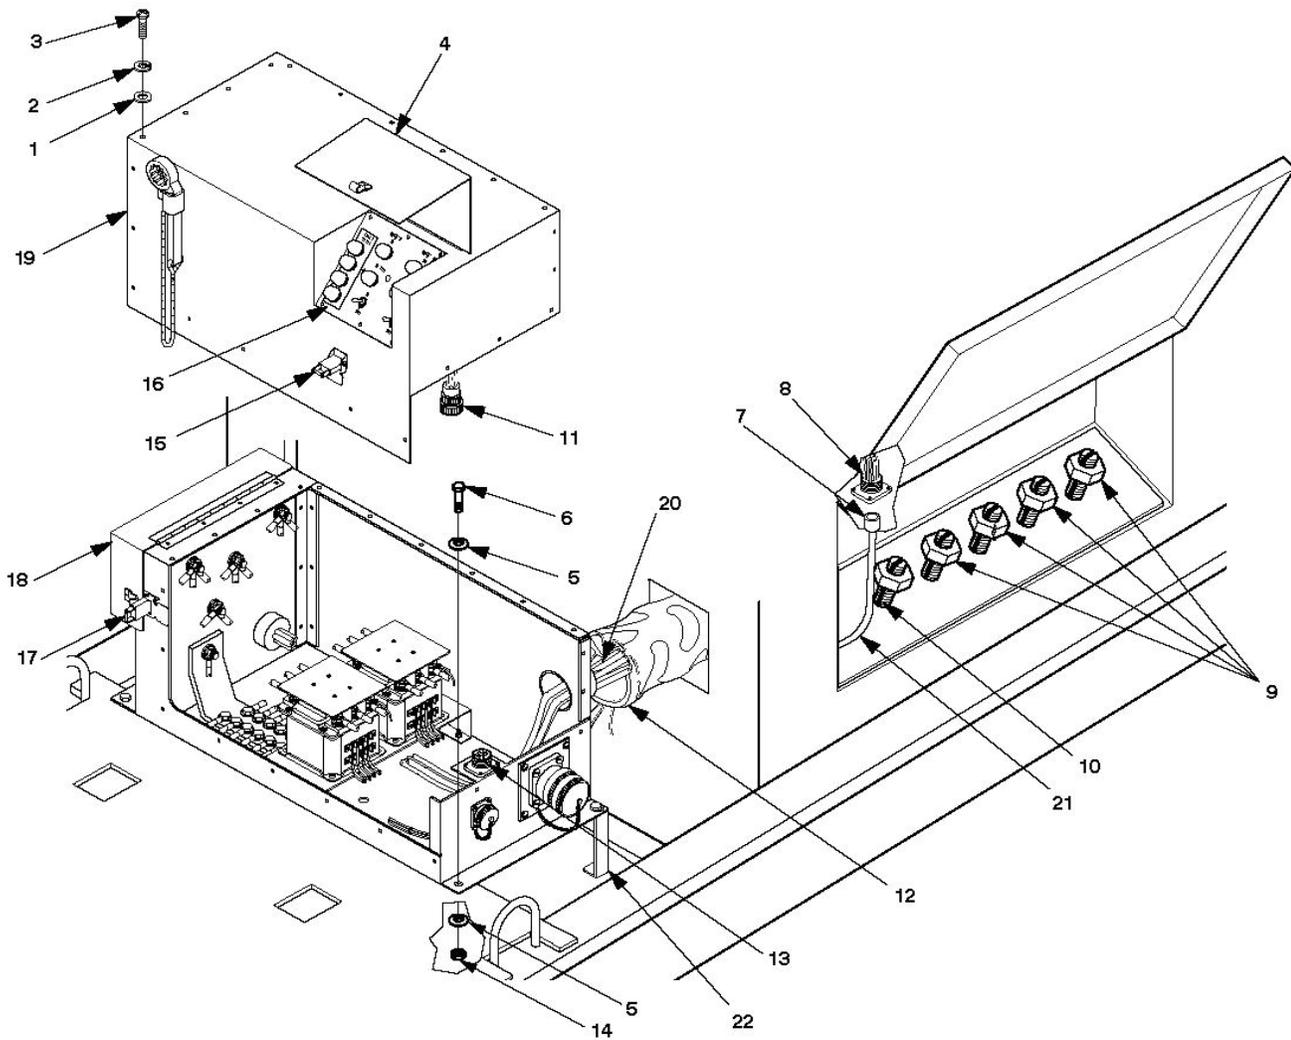

Figure 4-10. Switch Box Assembly Maintenance (Typical A Model)
1. Remove four lock-nuts (14, figure 4-10), eight flat washers (5), and four cap screws (6) that secure the switch box assembly. Discard lock-nuts (14).
1. Place loop clamp (6) so mounting holes are aligned with switch box cover (19, figure 4-10) holes.
3. Install cap screw (8), two flat washers (3), terminal lug (7), new lock washer (2), and nut (1) which secure loop clamp (6) to switch box cover (19, figure 4-10).